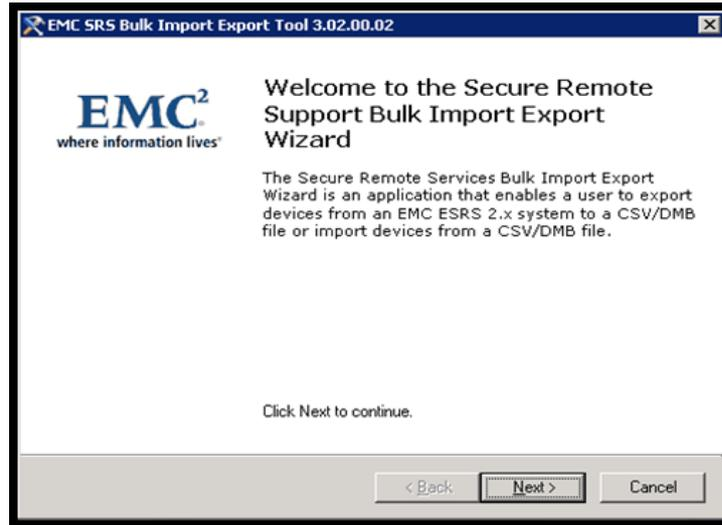

Figure 109 Clicking Next
6. Click **Next**, as shown in Figure 109 on page 97.